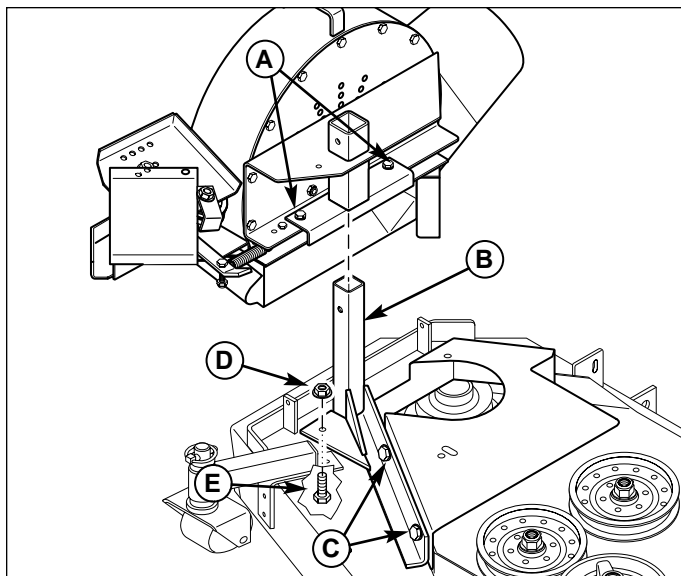

Figure 31. Install Blower
1. Install the blower assembly onto the mount bar (B, Figure 31). Push on the blower from the outside to obtain a tight fit between the blower housing and mower deck. Tighten the 3/8" x 1" bolts (C) that fasten the mount bar to the mower deck.
2. Drill a 3/8" hole through the mount flange of the blower mount bar and secure with a 3/8-16 x 1" bolt (E) and 3/8-16 flange nut (D).
3. Adjust the blower brace until approximately 1/8" clearance is obtained between the brace and the chute mount bar. Tighten the 3/8-16 x 1" bolts (A).